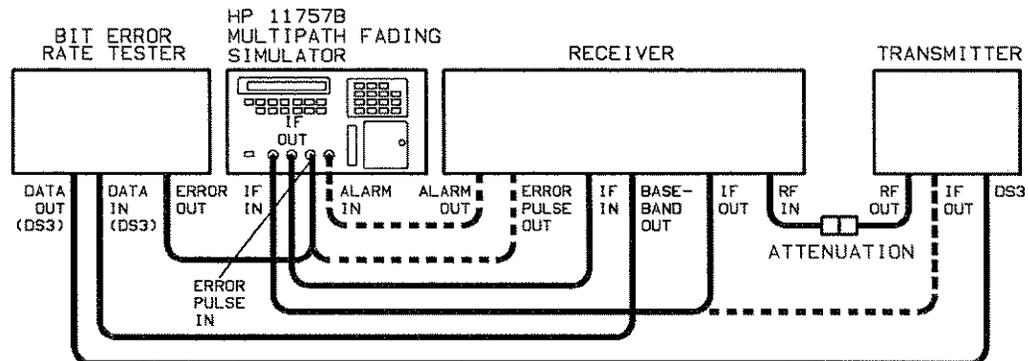

Figure 1-5. Hysteresis Measurement
4. Connect the Fader, BERT and Digital Radio as shown in figure 1-5.